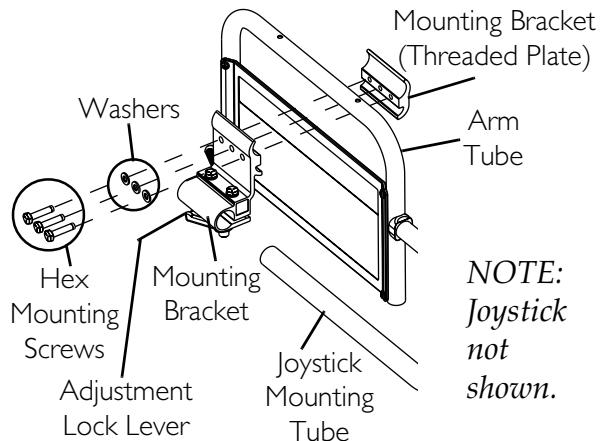

FIGURE 5.10 Repositioning the Joystick
NOTE: For this procedure, refer to FIGURE 5.10.
4. Reposition mounting bracket on opposite arm tube ensuring the threaded plate of the mounting bracket is on the inside of the arm tube as shown in FIGURE 5.10.